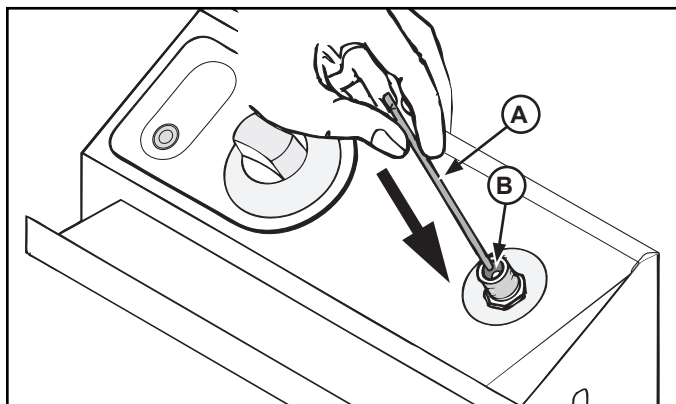

Figure 4. Resetting Switch.
- Use a pen or similar narrow tool (A) and press the reset button (B) down. The button should stay in the down or in the set position. See Figure 4.